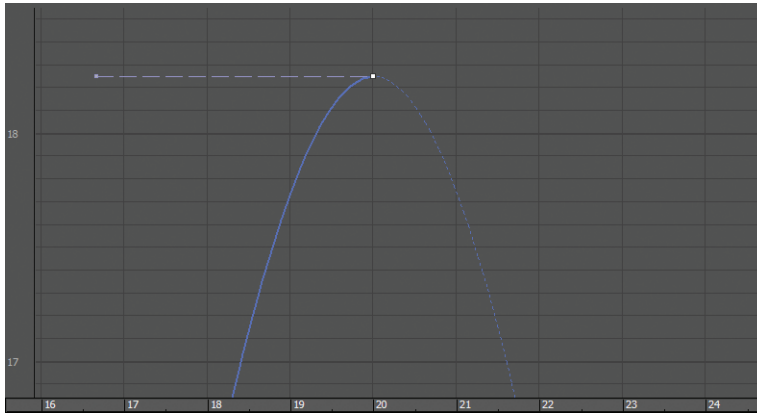

FIGURE 5.13 The keyframe's handle
This means you have to edit the movement that happens between the keyframes. This is done by adjusting *how* the keyframes shape the curve itself, using tangents. When you select a keyframe, a handle will appear in the user interface (UI), as shown in Figure 5.13.